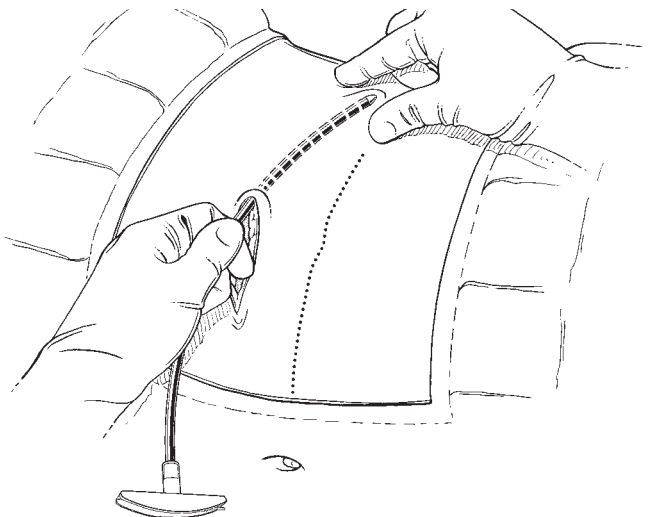

FIGURE 51
- Introduce the obturator tip subcutaneously at the neurostimulator pocket site, then guide the tunneling tool by pushing the skin over the advancing obturator (FIGURE 51).